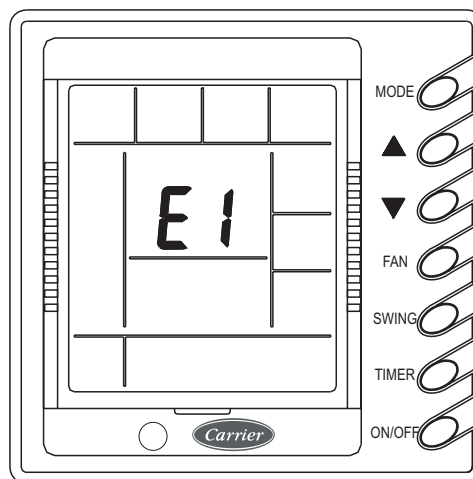

Fig. 5-IX
8. Despliegue de Fallas (Fig.5-IX)